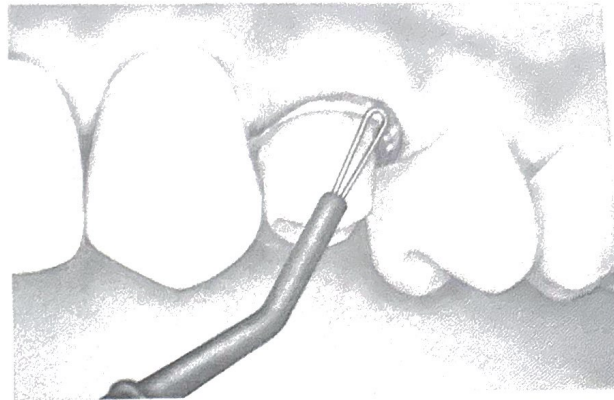

Figure 9
2. With the electrode loop parallel to the tissue being removed (Figure 9), slice the tissue off in thin layers until the desired result is obtained.